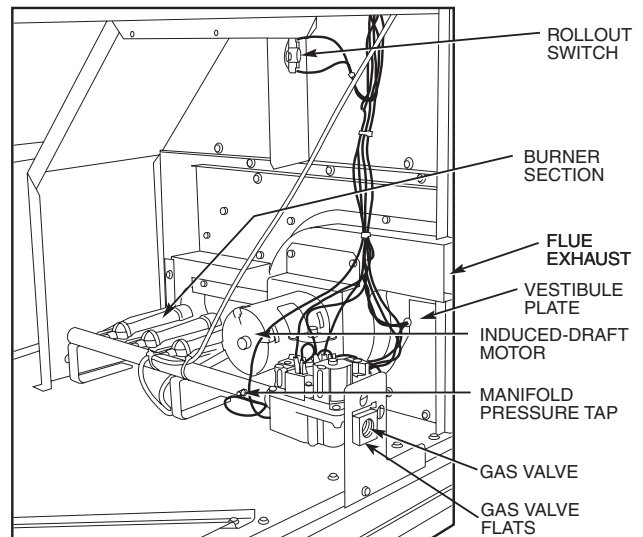

Fig. 53 — Burner Section Details
2. Remove the 6 screws that attach induced-draft motor housing to vestibule plate (Fig. 53).
REMOVAL AND REPLACEMENT OF GAS TRAIN (Fig. 53 and 54)